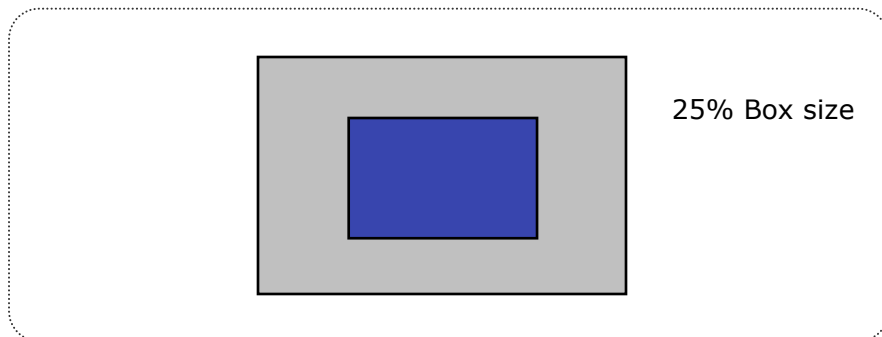

FIG. 7 Test Pattern
7. Viewing angle is the angle at which the contrast ratio is greater than 10. The angles are determined for the horizontal or x axis and the vertical or y axis with respect to the z axis which is normal to the LCD surface. For more information see FIG 7.